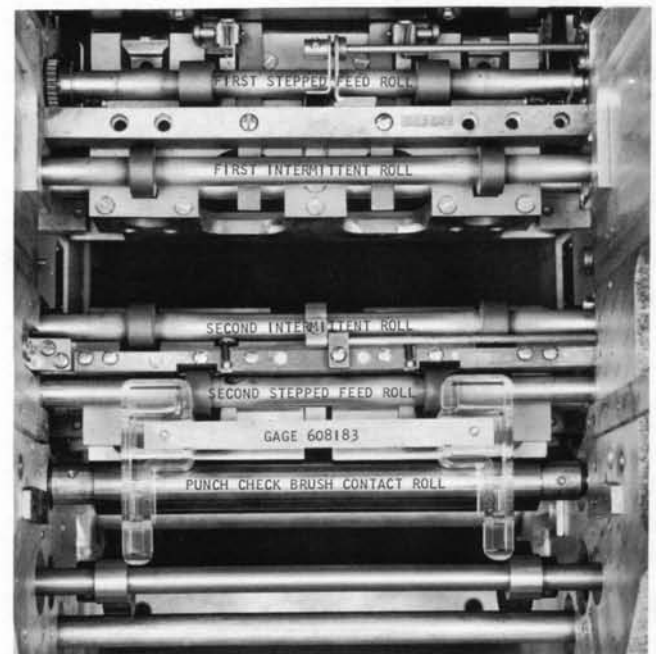

Figure 42. Position of Gage at Brush Station
4. Install gage P/N 608183 in place of brushes (Figure 42).
2. Insert gage (Figure 42).